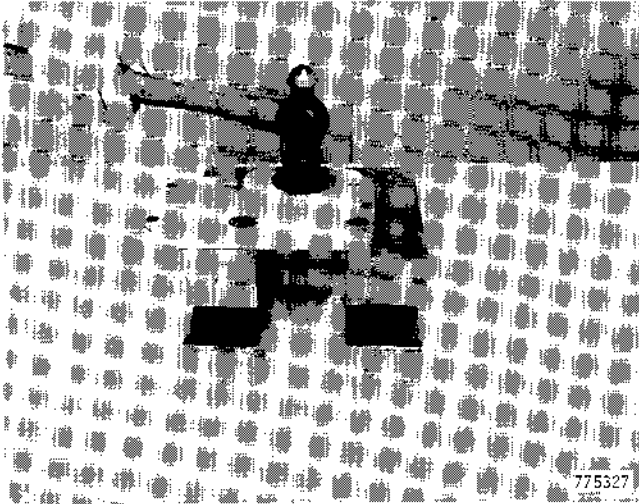

Figure 51
46. Remove shaft seal from cover plate, Figure 51.